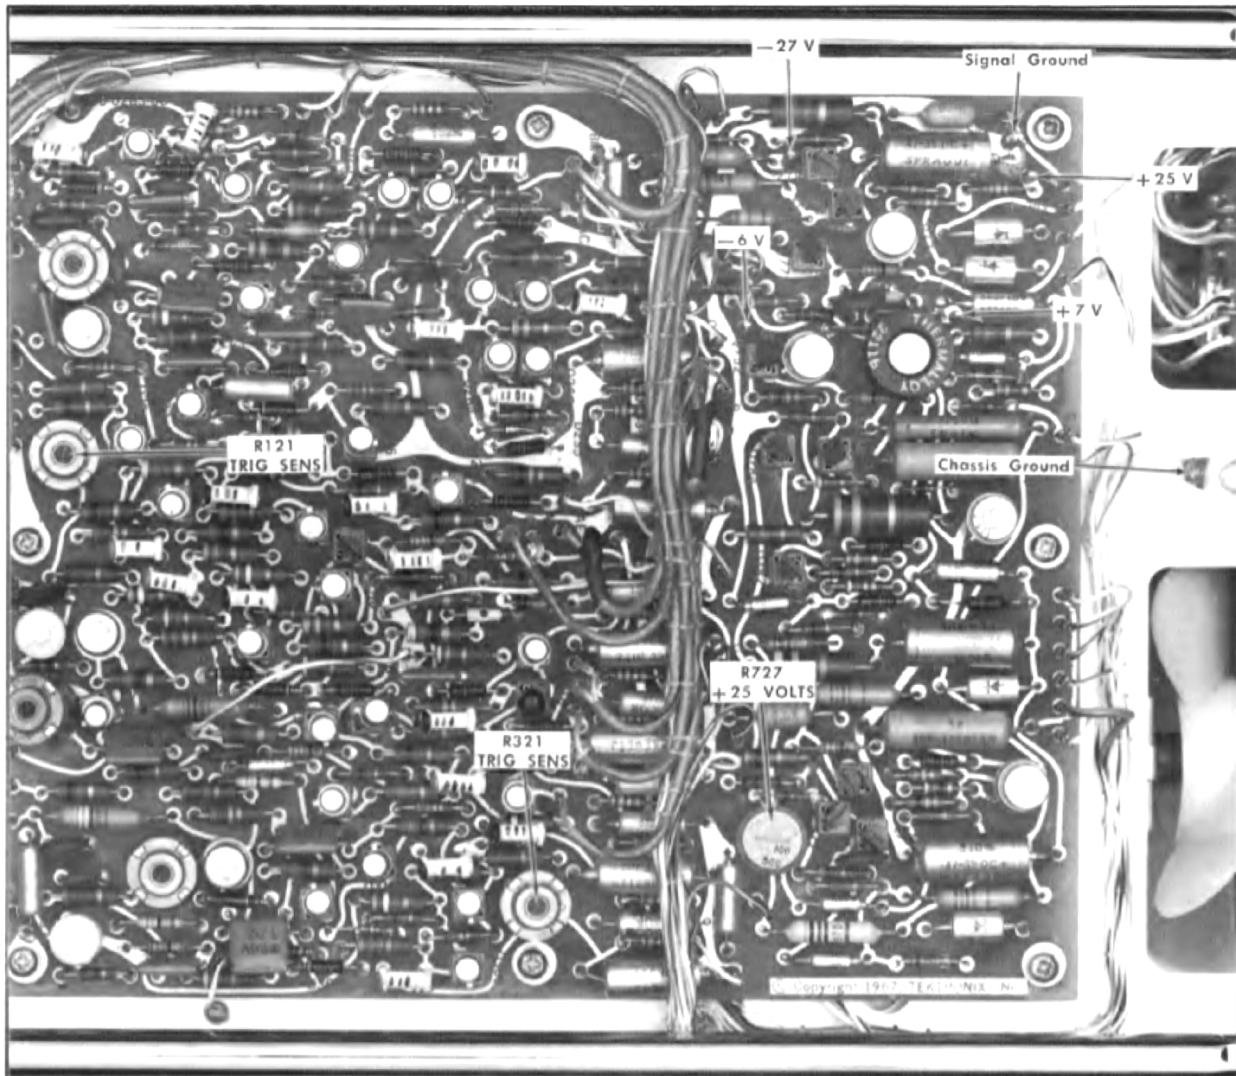

Fig. 5-3. Top circuit board: Location of adjustments and test points in steps 1, 2 and 6.
- c. Connect the negative lead of the DC voltmeter to the signal ground test point (see Fig. 5-3) and the positive lead to the +25-V test point.
- e. ADJUST—R727, +25-VOLTS adjustment, (see Fig. 5-3) if the voltage is not correct.
- a. Move the positive lead of the DC voltmeter to the +7-V point (see Fig. 5-3).
- d. Move the negative lead to the -27-V test point (see Fig. 5-3).
- f. Move the negative lead to the -6-V test point (see Fig. 5-3).
- h. Move the negative lead to the chassis ground test point (see Fig. 5-3).
Voltage Test Point (Fig. 5-3)	Ripple (60 Hz or 120 Hz Component)